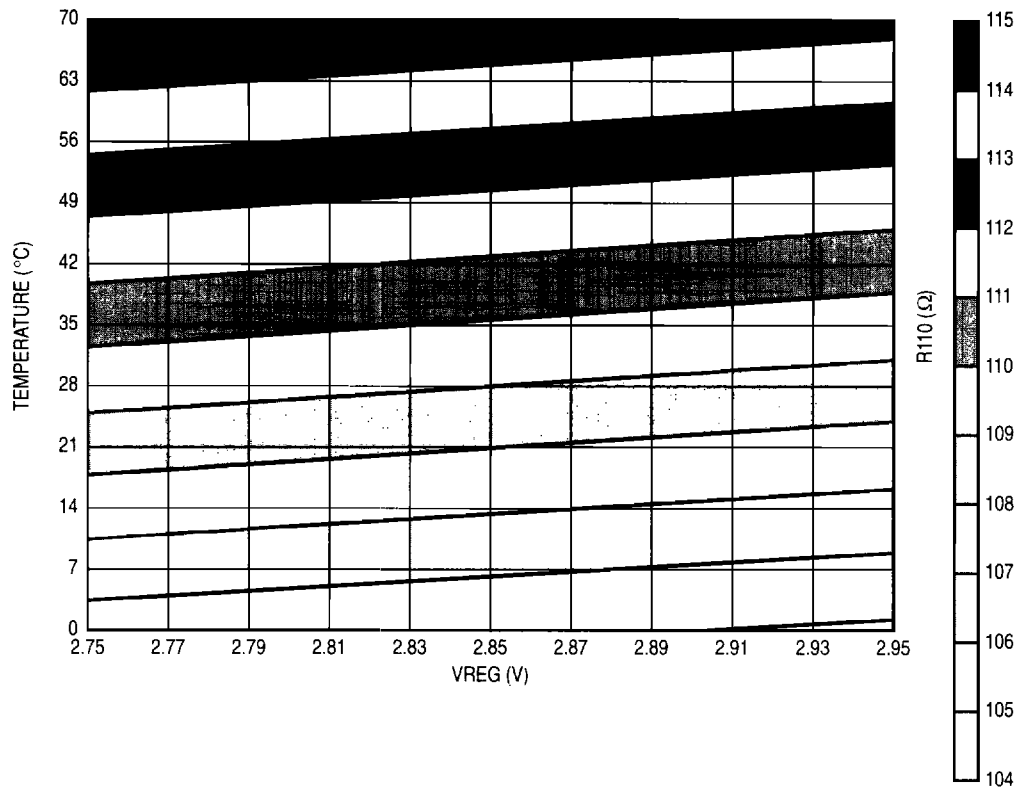

Figure 5. Termination Resistance R110 (Ω) versus Regulated Supply Voltage VREG (V) and Temperature (°C)
1. See Figure 5, Termination resistance versus regulated supply voltage and temperature. 110Ω Resistor Target Is at 35°C. Temperature coefficient of resistance T_C = 0.135Ω/°C typical.